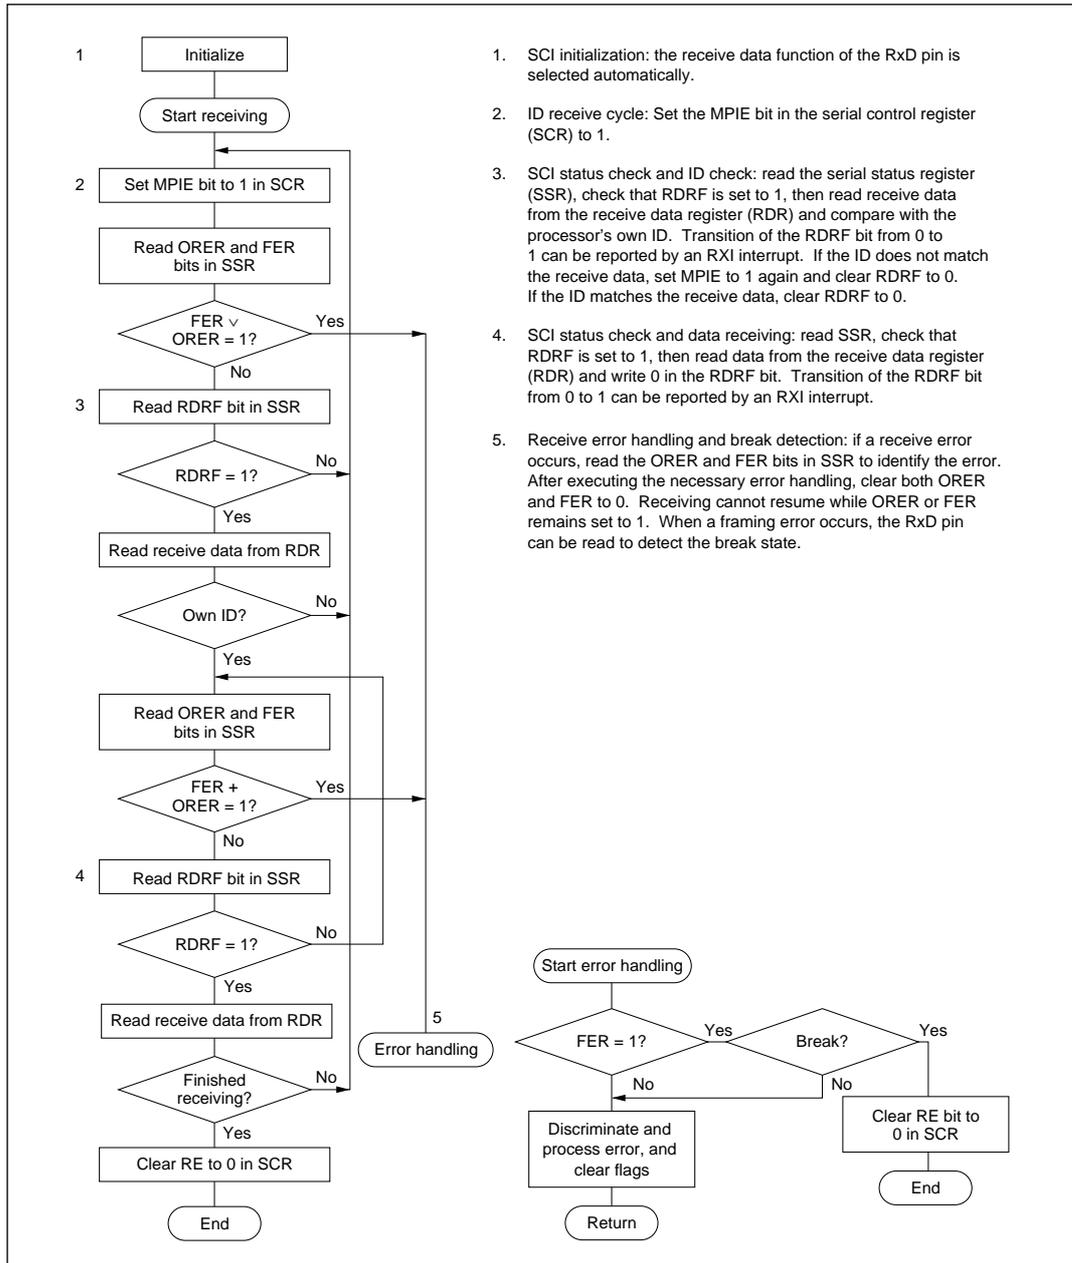

Figure 12-10 Sample Flowchart for Receiving Multiprocessor Serial Data
- **Receiving Multiprocessor Serial Data:** Follow the procedure in figure 12-10 for receiving multiprocessor serial data.